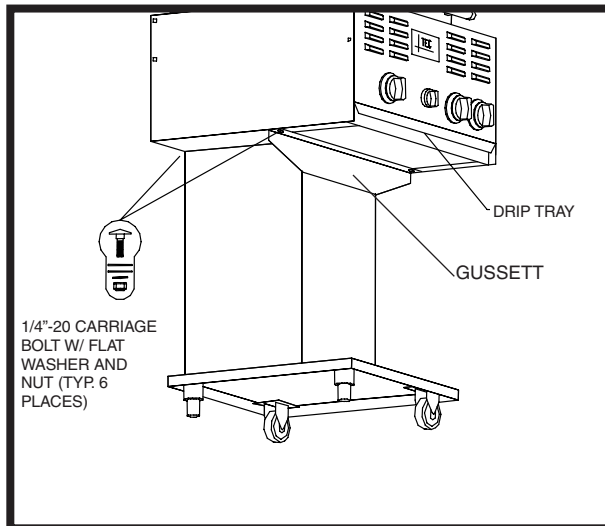

Figure 3. Pedestal Base
2. Remove the Gusset from the tank storage cavity and unpackage it. Place Gusset across front top of Pedestal Base with top flange facing away from the front of the Pedestal Base. Align the (6) holes and insert (6) 1/4"-20 Carriage bolts through the holes with the threads pointed into the tank storage cavity. Fasten the bolts with a flat washer followed by a lock washer, followed by a 1/4" nut.
4. Fasten the Housing to the Base with the supplied hardware. Make sure the carriage bolt threads are on the outside of the grill. (Hardware needed: Six (6) 1/4"-20 x 1/2" L carriage bolts, twelve (12) 1/4" flat washers, six (6) 1/4" lock washers and four (4) 1/4"-20 nuts.)
5. Replace the Drip Tray after tightening the fasteners. (See Figure 3.)